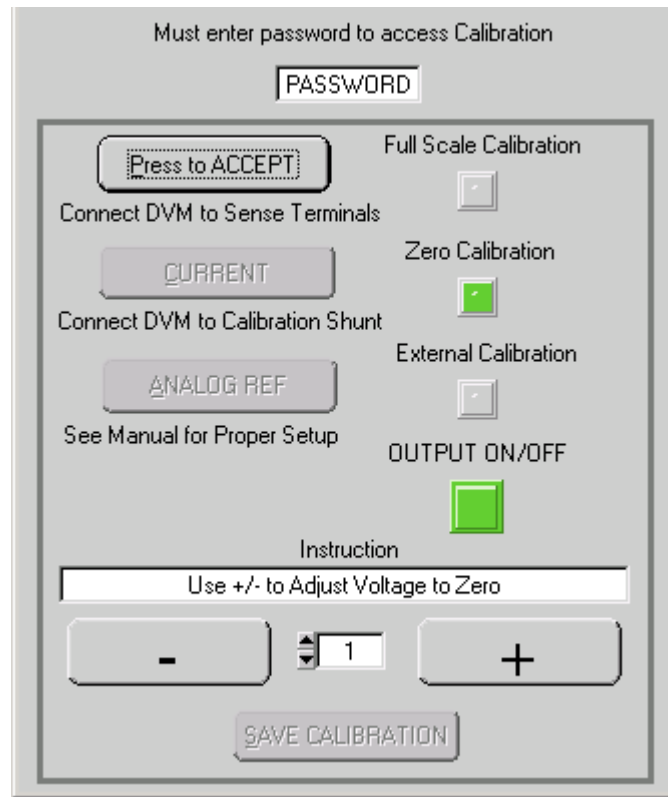

FIGURE 4-2. VOLTAGE CALIBRATION WINDOW
1. Click the **VOLTAGE** button on the Calibration window to start voltage calibration: the Voltage Calibration Window (Figure 4-2) appears. Minimum voltage is first; the status display on both the UUT and the VXI main panel) reads **V_0**. Monitor DVM and click the "+" button to